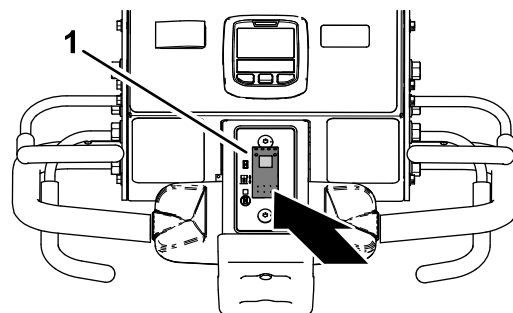

Figure 93
1. Press the bottom of the drop-control switch (Figure 93) to the IMMEDIATE-DROP position.